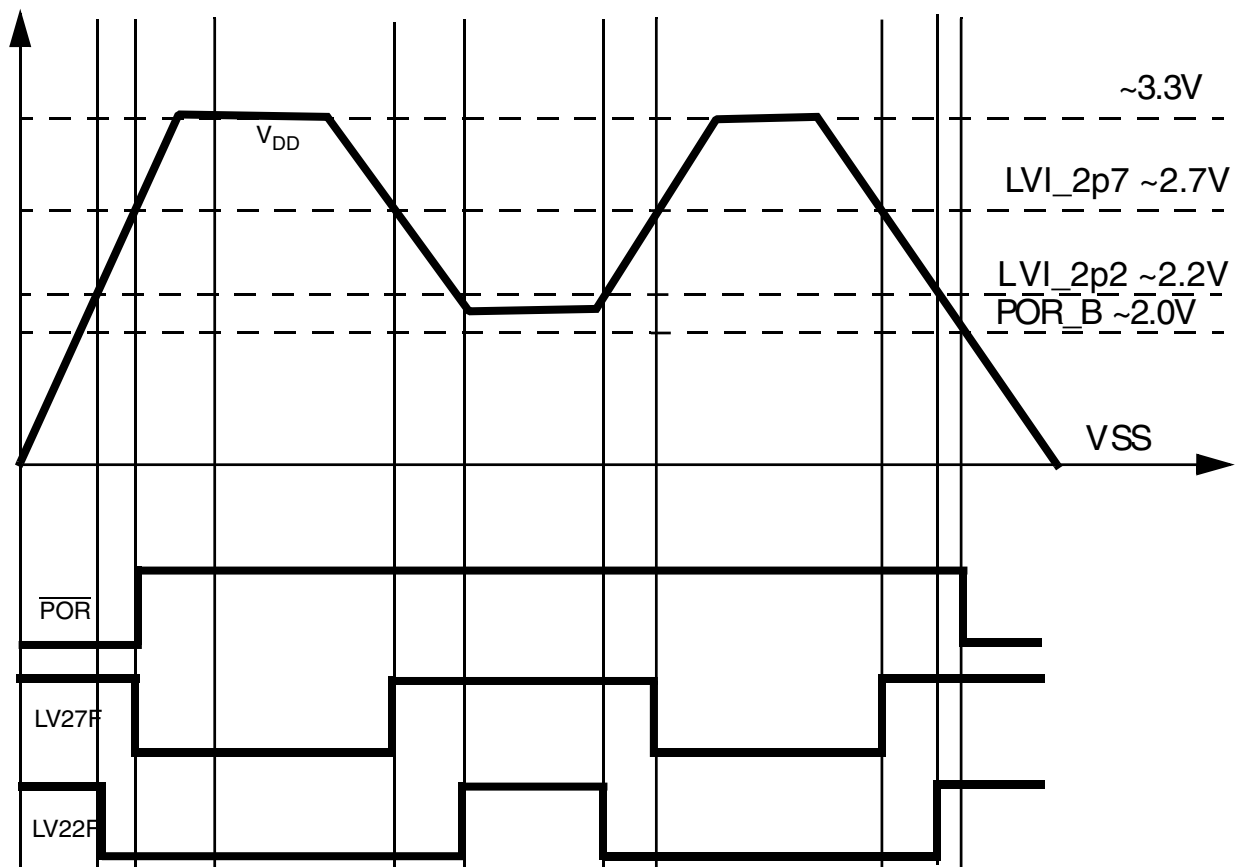

Figure 13-2. POR\_B Versus Low-Voltage Detects
**Figure 13-2** illustrates operation of the POR\_B versus low voltage detect circuits. Low voltage detection circuits indicate the voltage on VDD, the external 3.3 V supply, relative to 2.7 V and 2.2 V.